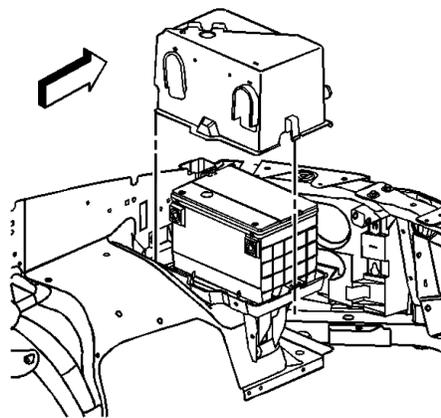

Fig. 5 Battery cover
12. Remove battery cover, **Fig. 5**.
3. Install battery cover, **Fig. 5**.